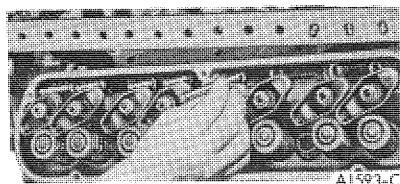

FIG. 47 Removing Valve Push Rods
4. Loosen the rocker arm bolts or nuts so that the rocker arms can be rotated to the side. Remove the push rods in sequence (Figure 47) so that they may be installed in their original positions.